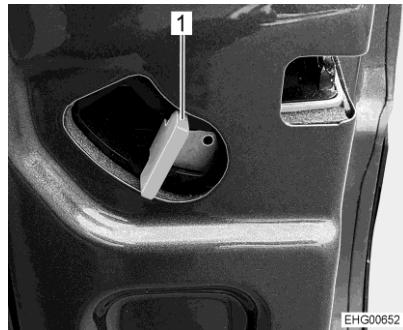

Fig. 10 Handle for opening the rear doors
- Push the handle (Fig. 10,1) upwards and open the rear doors as far as they will go.